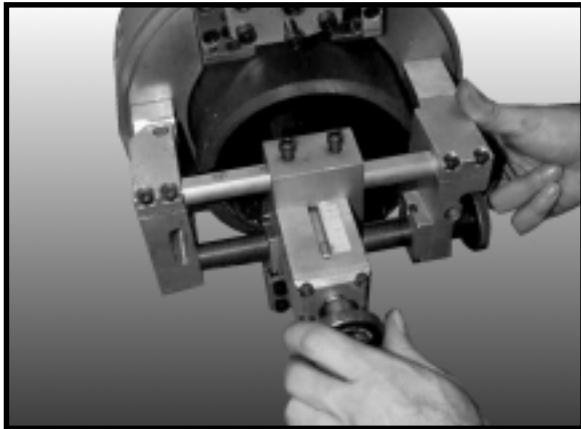

FIGURE 15
46. Feed cutting tool into the pipe by turning the axial feed handle counter clockwise until the flat of the tool is inside the pipe face (Figure 15).